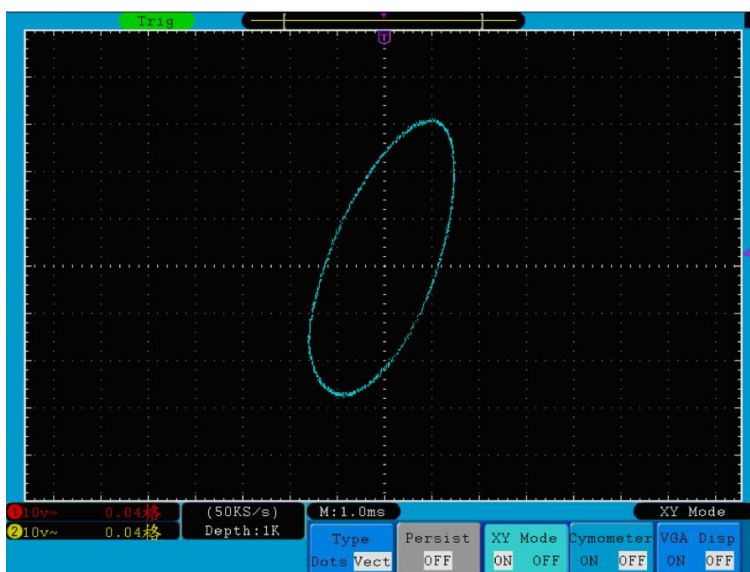

Fig. 45 XY Display Mode
2. Press the **H3** menu selection button to set XY Mode **ON**. The display format is changed to be XY mode (see Fig. 45).